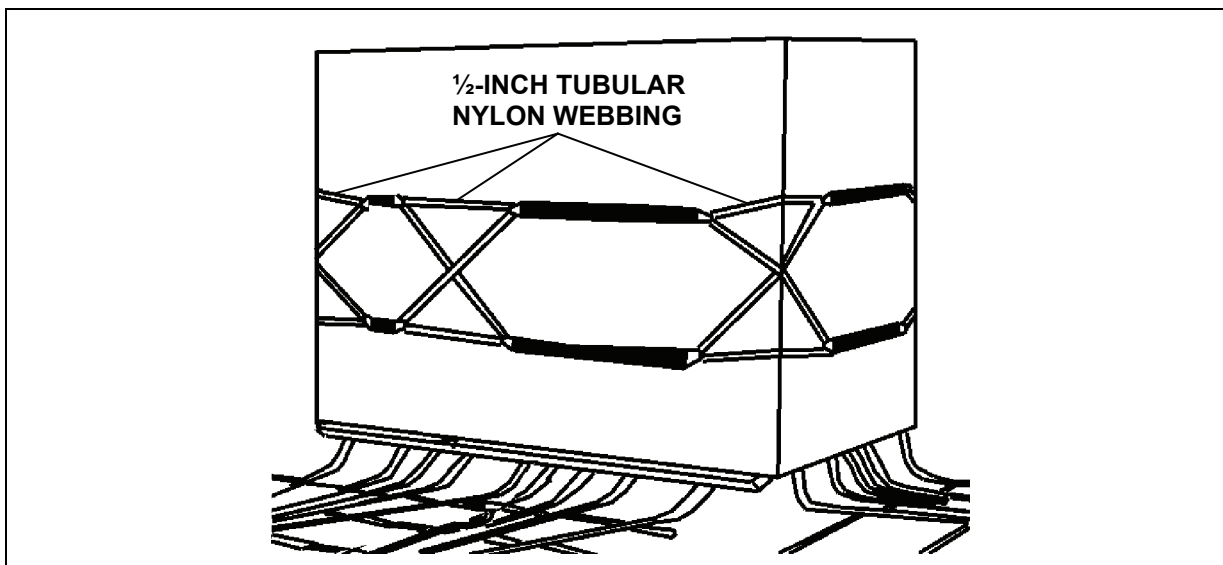

Figure 8-21. Cover Ties Installed
- Use six lengths of 1/2-inch tubular nylon webbing to lace the cover closed. Pull the webbing tight and tie the running ends in a surgeon's knot and bow knot. Tape the excess and knots leaving one running end slightly exposed to allow rapid derigging (Figure 8-21).